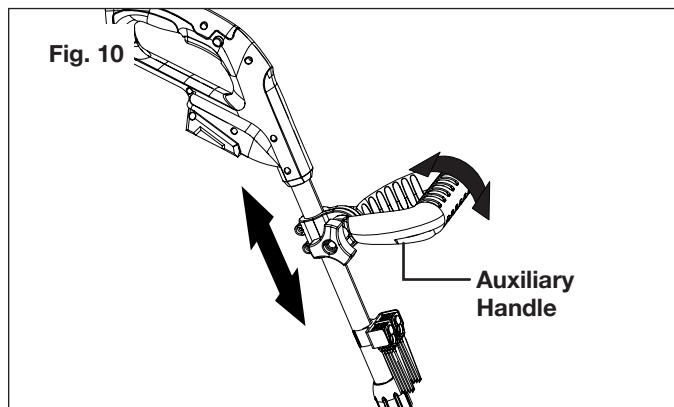

Fig. 10
3. Adjust the position of the auxiliary handle as needed by sliding it along the upper pole (Fig. 10).
4. Adjust the angle of the auxiliary handle as needed by pivoting it as shown (Fig. 10).